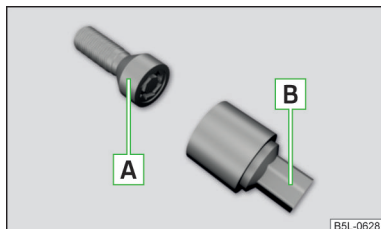

Fig. 333
The anti-theft wheel bolts protect the wheels from theft. The upper section **B** » Fig. 333 must be used to **loosen/tighten** these.
- › Push the wheel wrench onto the wheel bolt to the stop. Use the associated upper section for the anti-theft wheel bolts » Fig. 333 on page 285.